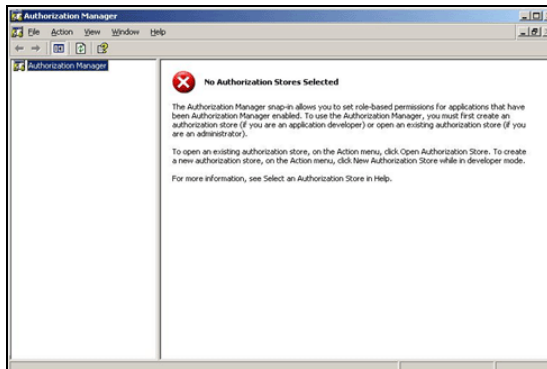

Figure 19-27. The Authorization Manager
1. Open the **AUTHORIZATION MANAGER CONSOLE** (figure 19-27) by selecting: